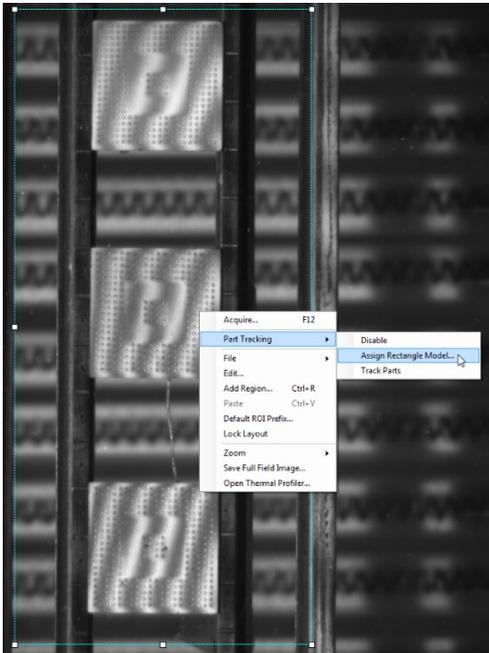
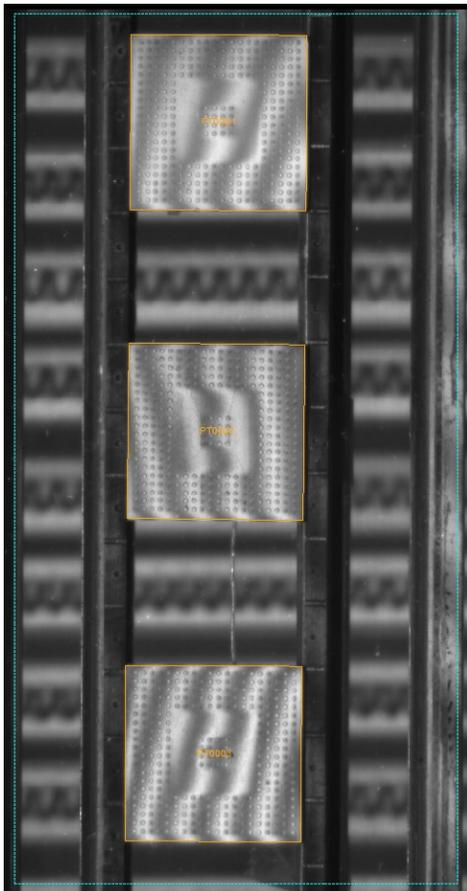

Figure 2.52 Assign Model
Figure 2.54 Tracked Parts
3. Size the blue, dotted-line search area such that it contains all parts that will be tracked. Right click inside this ROI and select 'Assign Rectangle Model' (**Figure 2.52**).
Note: Instead of immediate acquisition, which may incur a large processing time with large numbers of parts, the user can check part tracking settings by right-clicking on the camera context window and selecting the 'Track Parts' option shown in **Figure 2.52**. The currently tracked parts will be shown outlined in orange as shown in **Figure 2.54**. The same tracking display will be seen after a normal acquisition with Part Tracking enabled.